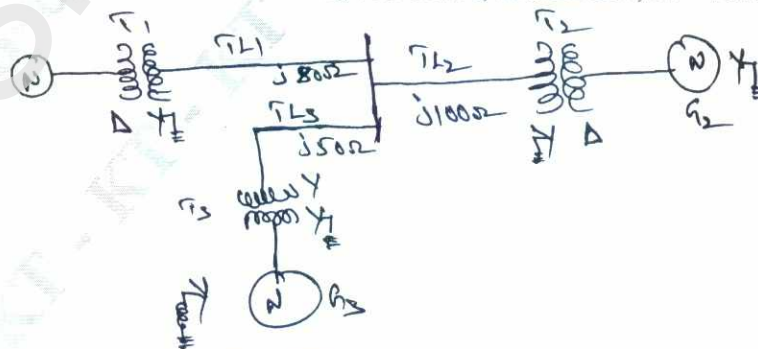

Fig.Q2(b)
- b. The one line diagram of an unloaded generator is shown in Fig.Q2(b). Draw the PU reactance diagram. Choose a base of 50 MVA, 13.8 KV in the circuit of generator G₁. The ratings are as follows: